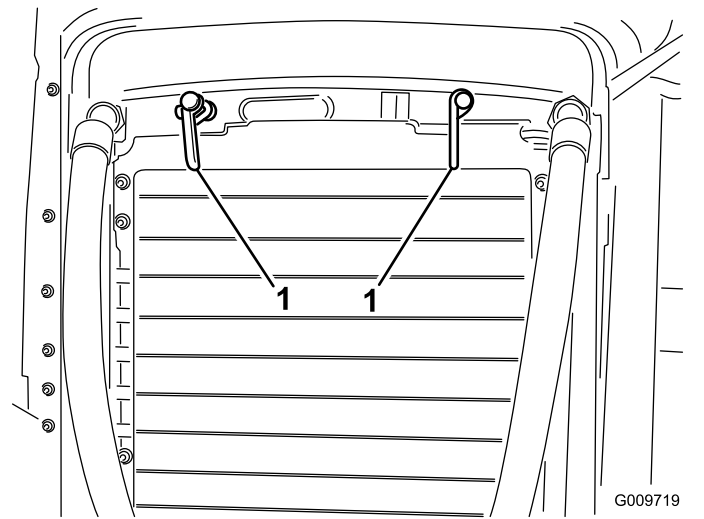

Figure 50
2. Rotate latches (Figure 50) securing the oil cooler to the frame.